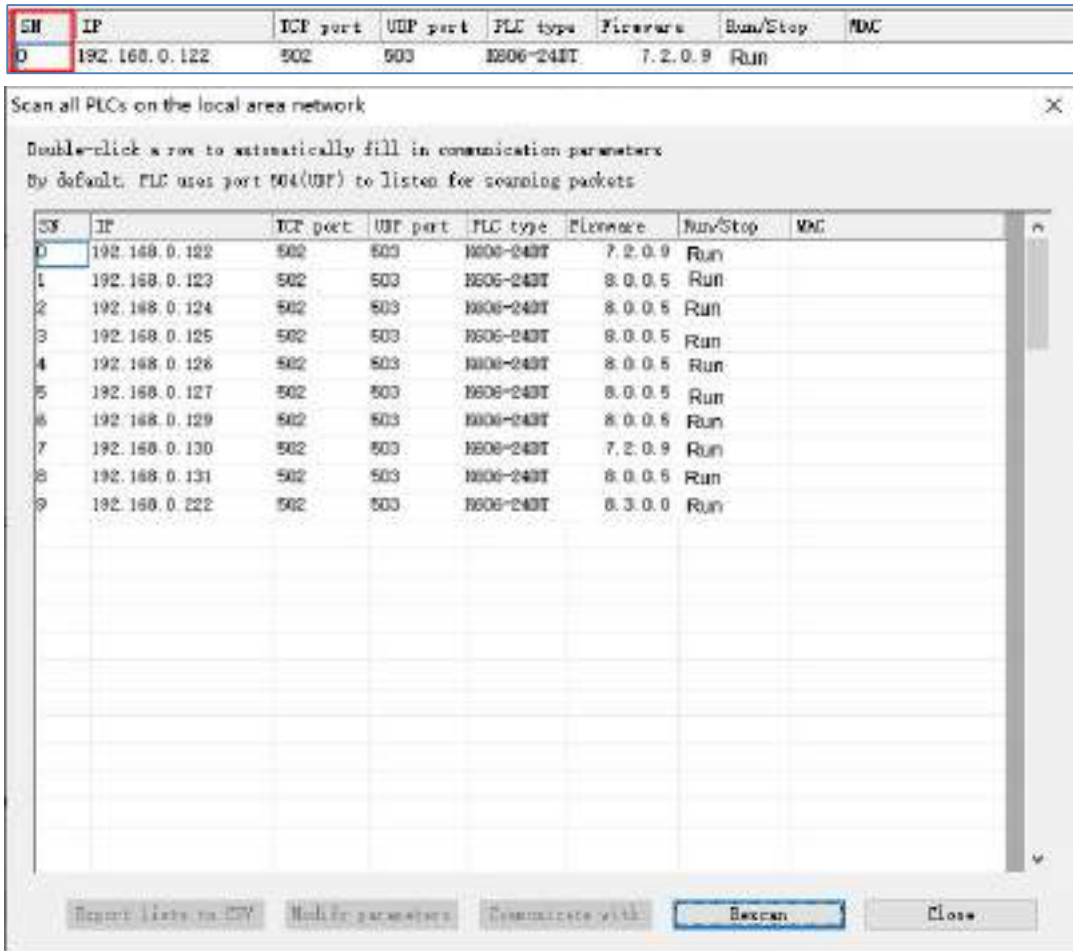
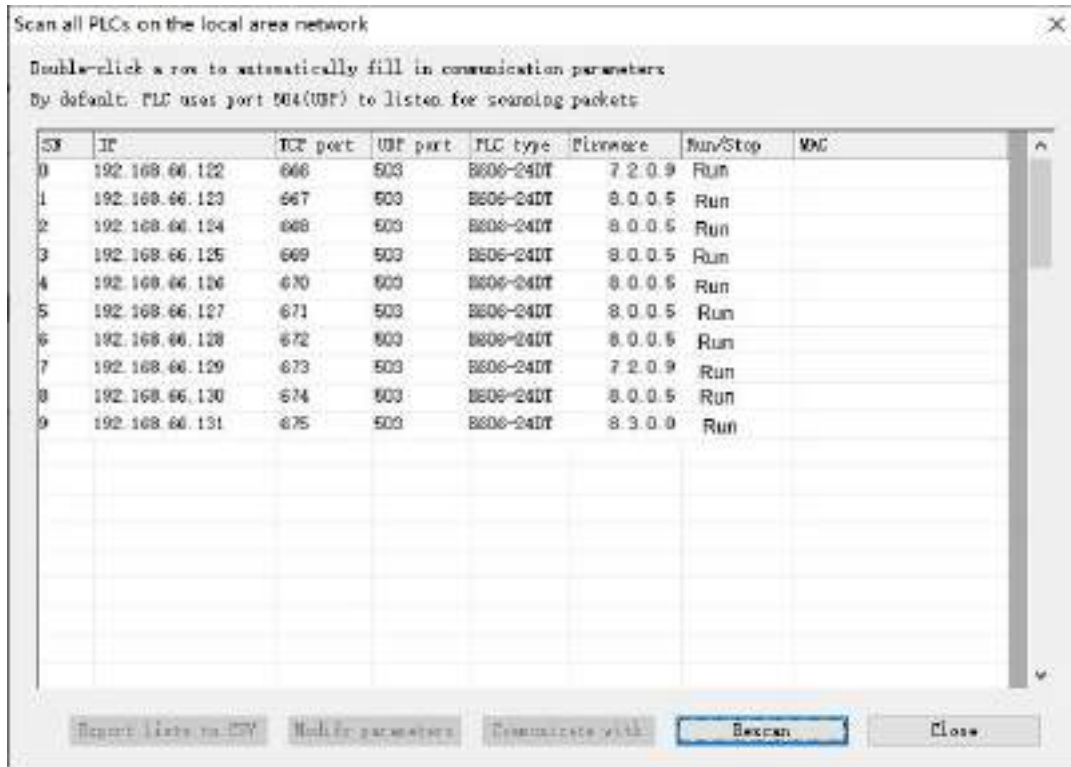

Figure 6
Figure 7
① Click yes when  Start with this IP set all to different  Start with this Port set all to different are not checked, all devices in the network will be modified to the same IP address, subnet mask, gateway, and port number. Figure 6.
② Click yes when are  Start with this IP set all to different  Start with this Port set all to different checked, the device in the network will use this IP as the starting IP and this port as the starting port number to increase. In Figure 6, the IP addresses and port numbers of all devices in the network before modification are the same, and Figure 7 shows the effect after batch modification.
Figure 7 shows sorted IP address from small to large by different IP address